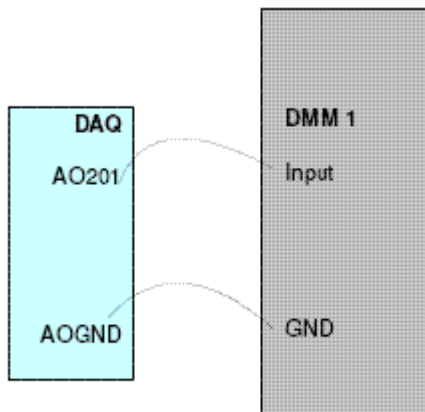
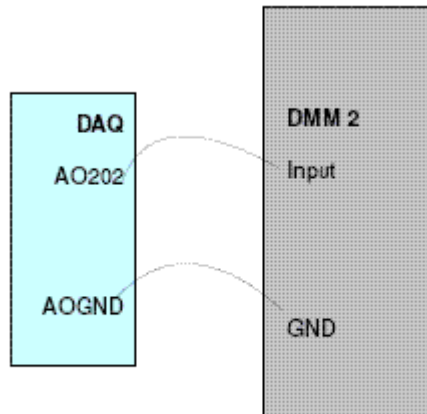

Figure 2-16 Analog output channel A0201 with DMM 1
Figure 2-17 Analog output channel for A0202 for DMM 2
- 4 Connect the DAQ device's analog output channel (AO201) to the first DMM input and AO_GND to the first DMM GND. Repeat the connection for channel AO202 to the second DMM device. See Figure 2-16 and Figure 2-17 for the connection.